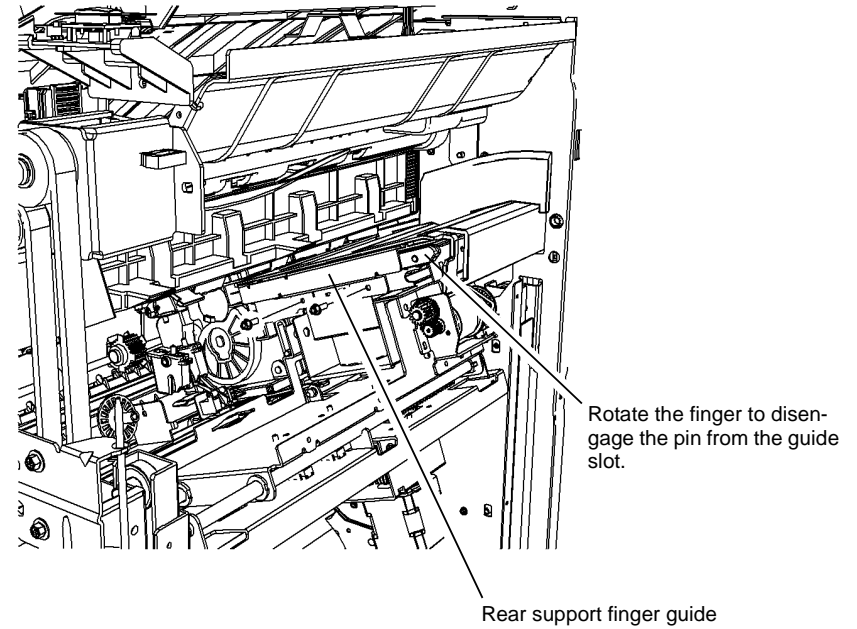

Figure 3 Rear support finger
5. Remove the guide and the rear support finger, Figure 3.